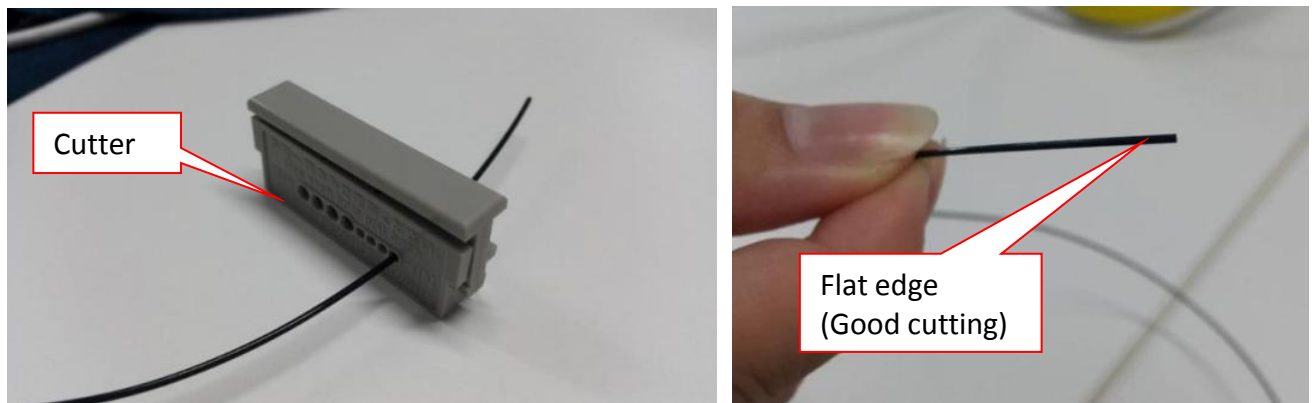

Figure 15 PIP Sensor Cable
7. Remove excessive PIP Sensor Cable as shown in Figure 15.